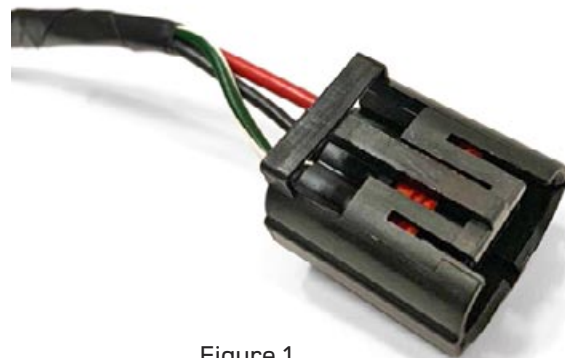

Figure 1
6. Once the wiring harness is in place and the end of the wiring harness is positioned near the transfer box, insert the 3 wires into the plug that goes to the sender unit as shown in the attached image (Figure 1). Double check before inserting the wires, because once they are seated it takes a special tool to remove them (it's possible with a paper clip). If in doubt, look closely inside the sending unit and you will see the terminals labeled +, - and A; the red wire goes to the +, the black wire goes to the - and the green/white wire goes to the A. When seating the terminals into the connector, they will only go in one way, so rotate the wire until the terminal slides fully into the connector. When all the wires are in the plug, push the small yellow finisher into the tip of the plug to lock the terminals into place.